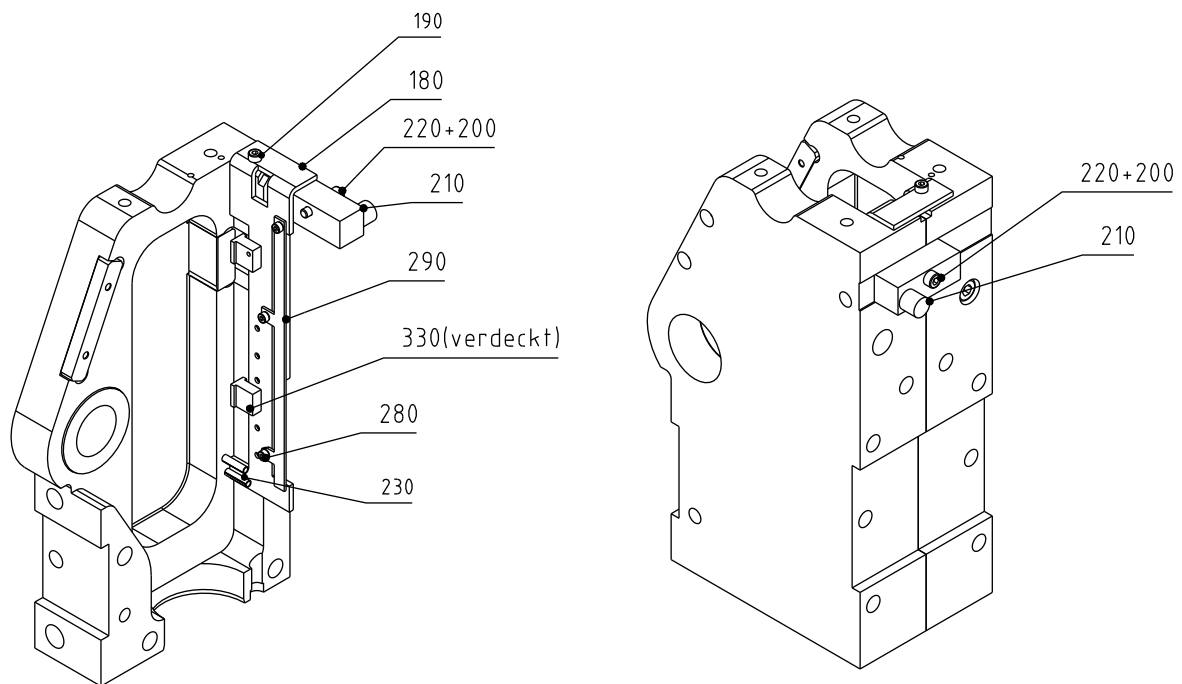

Fig. 2: Exchange of limit switches
- Connect electro-coupling corresponding to the electrical design (see circuit diagram Fig. 3) onto the connection plug " M12" (Fig. 2) and tighten the screws.